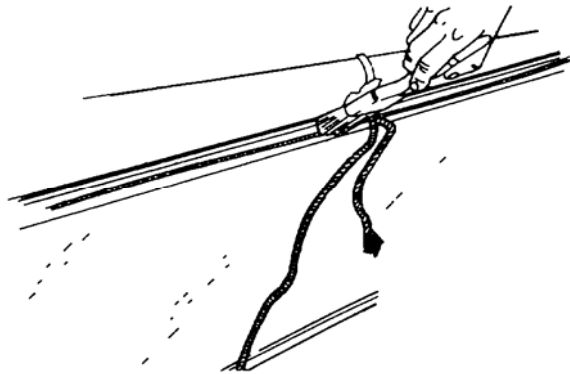

Figure 8 Rubber Seal - Applying Soap Solution
- e. Using a solution of soap and water, lubricate the rope and the rubber thoroughly (Figure 8).